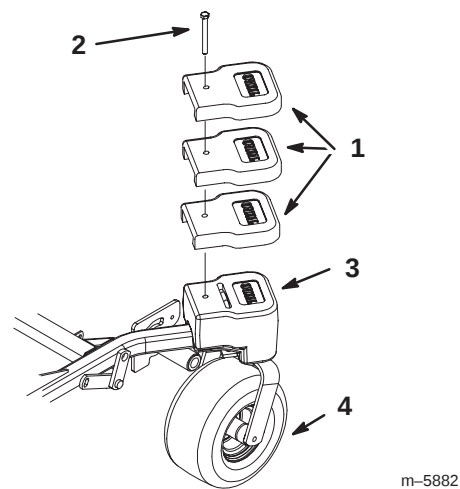

Figure 23
2. If 2 top weights are needed, for each side, then install them on top of the caster weight with a bolt (1/2 x 3 in.) (Fig. 23).
3. If 3 top weights are needed, for each side, then install them on top of the caster weight with a bolt (1/2 x 4 in.) (Fig. 23).
Check the air pressure in the front caster wheel (Fig. 23) and rear tires (Fig. 25).